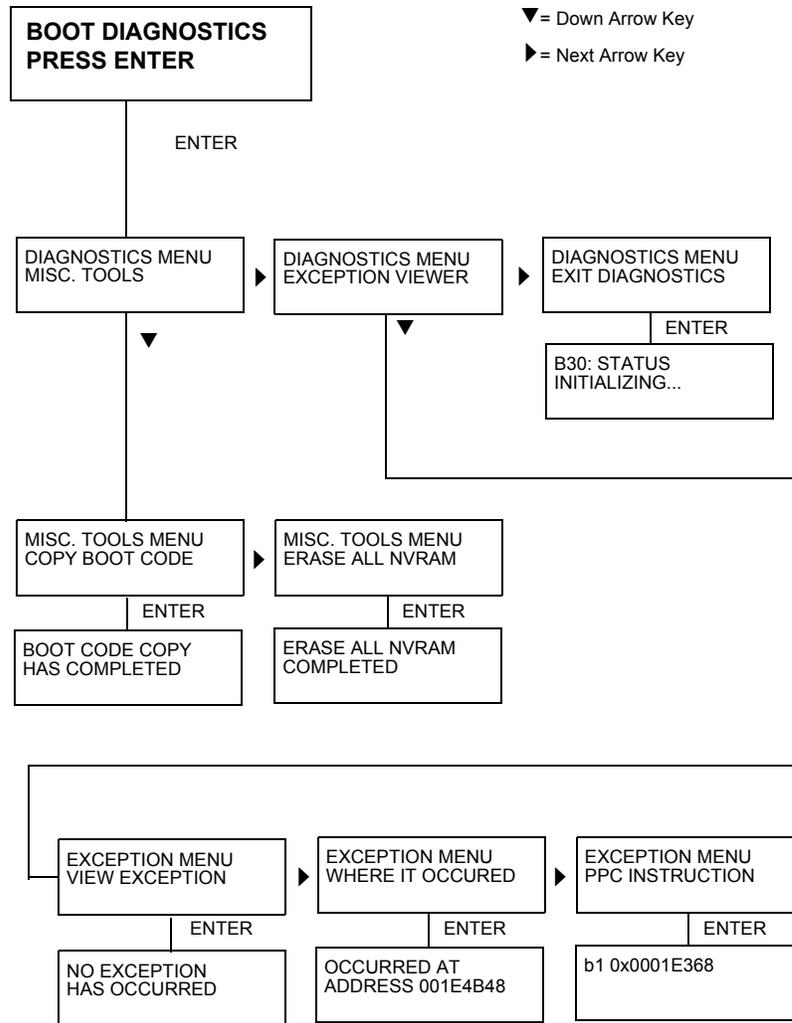

Figure 11. Boot Diagnostics Menu
The boot diagnostics menu is a multi-level menu that operates the same way as the user menus. The menu structure is shown in Figure 11 on page 164.
4. When “BOOT DIAGNOSTICS / PRESS ENTER” appears on the LCD, release the ◀ + ▽ keys and press the **ENTER** key repeatedly until the printer enters the menu. (may take 10 or more presses for this to occur). Menu options are shown in Figure 11.